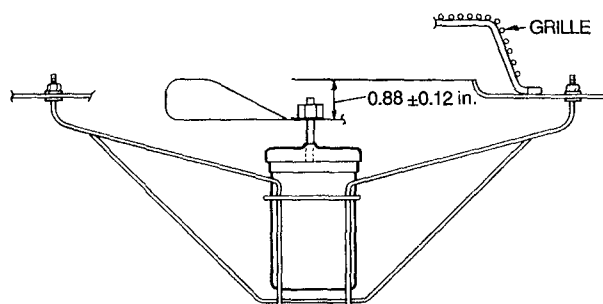

Fig. 45 — Condenser-Fan Adjustment
4. Adjust fan height on shaft using a straightedge placed across venturi and measure per Fig. 45.